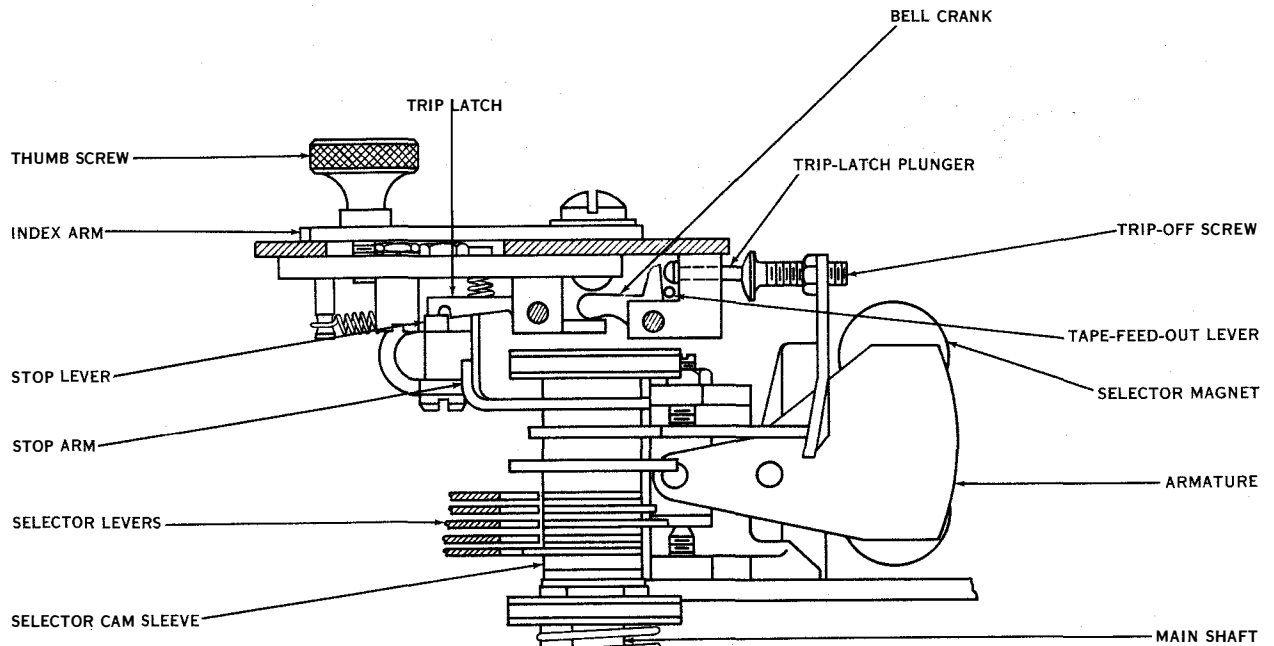

Figure 2-32. Rangefinder Assembly
(2) RANGEFINDER MECHANISM.—The rangefinder mechanism consists of a mounting plate with a graduated scale, index arm with thumb screw, stop lever, trip latch, bell crank, and trip-latch plunger (see figure 2-32).
start impulse. The armature lever presses the trip-off screw against the trip-latch plunger. Movement of the plunger tilts the bell crank and raises the trip latch clear of the stop lever (see figure 2-32). The unlatching of the stop lever releases the stop arm and allows the cam sleeve to rotate.
(a) From an idling condition, under which the main shaft rotates with the selector magnet energized and the selector cam sleeve and main bail and punch arm cam held stationary, the selecting cycle is initiated by reception of the start interval (no current). The armature lever spring retracts the armature and armature lever. The armature lever moves the selector arm to the spacing position, and pressure exerted on the trip-latch plunger by the trip-off screw causes release of the selector cam sleeve by the rangefinder (see figure 2-32).